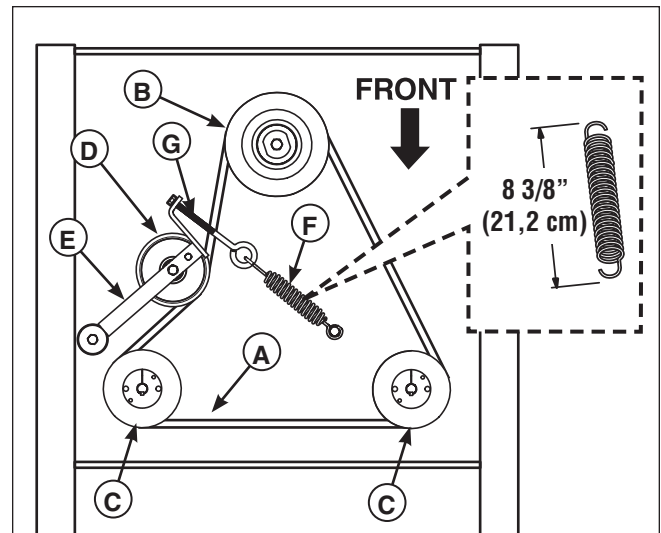

Figure 47. Hydraulic Pump Drive Belt Replacement
4. Loosen the nut on the spring anchor eyebolt (G, Figure 47) to release the majority of the belt tension. Use caution and remove the nut to completely release the tension.
6. Reinstall the spring anchor eyebolt (G) into the anchor tab and loosely fasten the nut. Adjust the anchor eyebolt until a measurement of 8-3/8" (21,2 cm) is achieved from the outside of the spring hooks. Tighten nut.